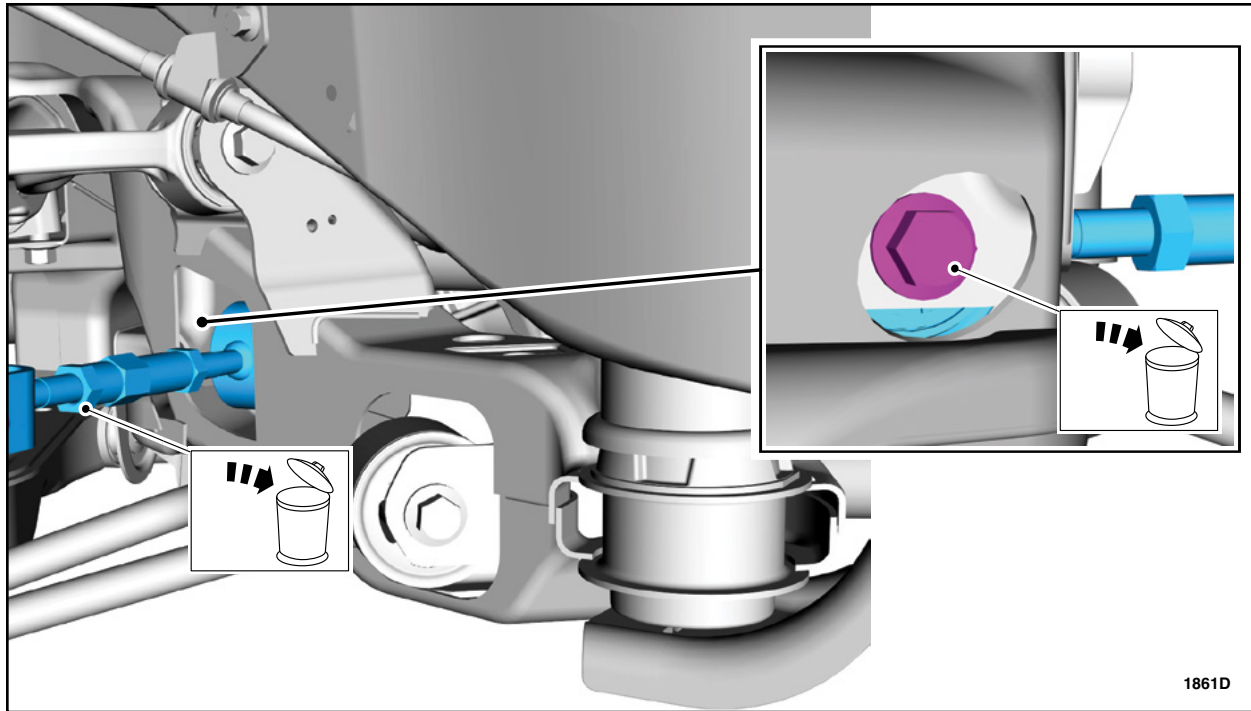

FIGURE 5
8. Remove and discard the toe link to subframe bolt and the toe link. See Figure 5.